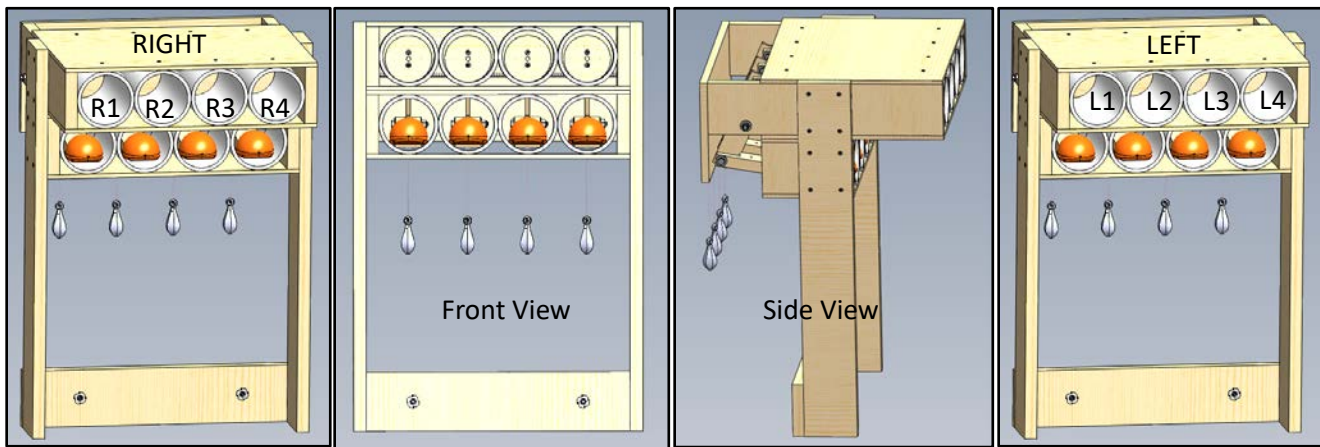

Figure 3.17 Brain Biopsy Location
There are two Brain Biopsy locations. The Red/Green team robots can access the Right Brain Biopsy Location. The Yellow/Blue team robots can access the Left Brain Biopsy location. There are four (4) biopsy sample cavities on each side as shown in Figure 3.17. Robots must use the **Biopsy Needle** (or a team-built instrument) in their surgical toolkit to access the samples. Pushing the needle far enough into one of the sample cavities will cause the brain biopsy directly below it to be dispensed. Because of the precision required when operating in the brain cavity, human error cannot be tolerated, and robots must perform the biopsy autonomously.